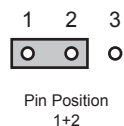

Figure 3 J7 — Default Position
- › **Pin 1** (left) + **Pin 2** (center) position — In this position, the analog reference is terminated with an 75ohm resistor. This configuration is to be used for point-to-point cabling, or on the last card of a daisy chain topology. This is the default position (**Figure 3**).